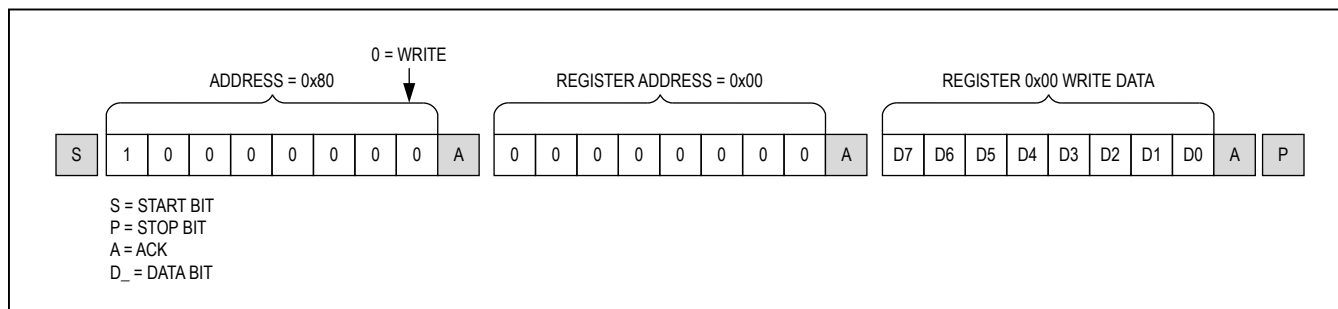
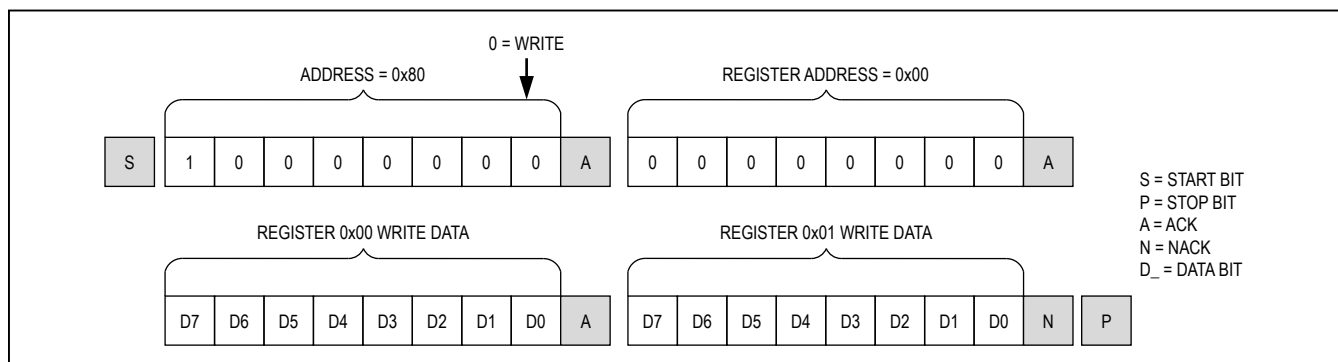

Figure 43. Format for I2C write
Figure 44. Format for I2C Write to Multiple Registers
Writes to the deserializers comprise the transmission of the slave address with the R/W bit set to zero, followed by at least one byte of information. The first byte of information is the register address or command byte. The register address determines which register of the device is to be written by the next byte, if received. If a STOP (P) condition is detected after the register address is received, the device takes no further action beyond storing the register address (Figure 43). Any bytes received after the register address are data bytes. The first data byte goes into the register selected by the register address, and subsequent data bytes go into subsequent registers (Figure 44). If multiple data bytes are transmitted before a STOP condition, these bytes are stored in subsequent registers because the register addresses autoincrements.